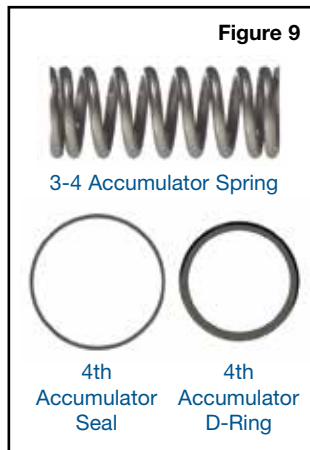

Figure 9
Step 10 Install 3-4 Accumulator Spring & Seals (Figure 9)